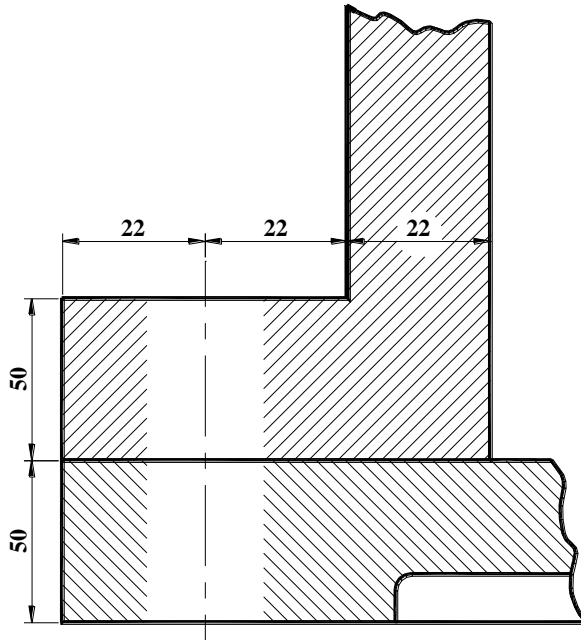

FIGURE T6.5: SQUARE HEAD BOLT
5. 5. DRAW FRONT VIEW AND TOP VIEW OF PIECES FASTEN TOGETHER WITH 18 MM SQUARE BOLT AND NUT AS SHOWN IN FIGURE T6.5.